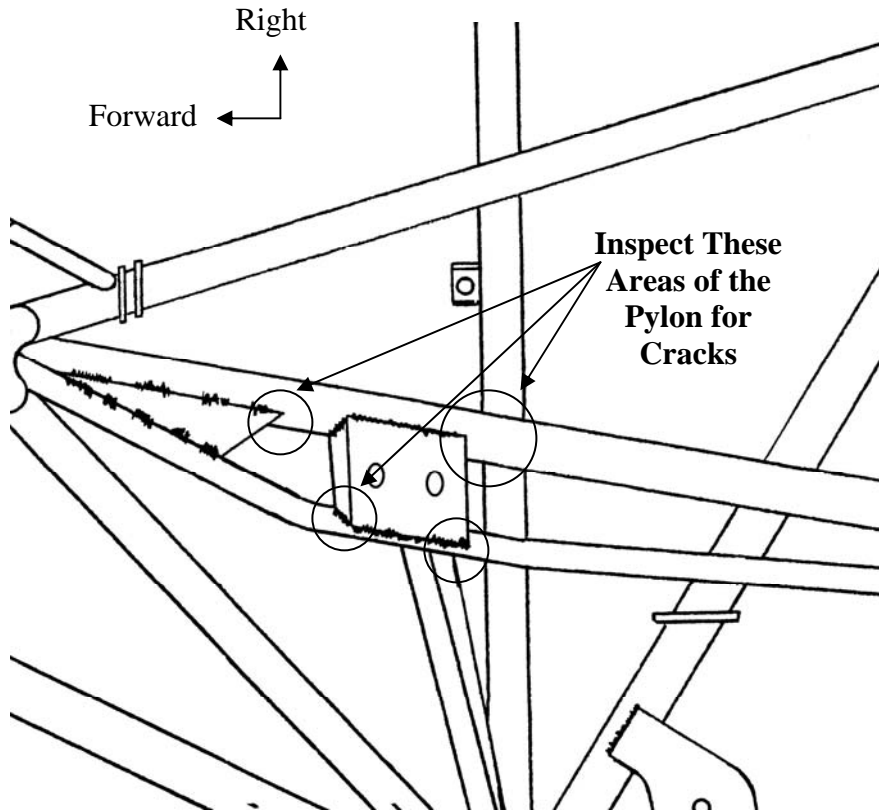

Figure 1. Pylon (Viewed from Top)
Enstrom recently received reports of 4 cracked pylons. The failures occurred in the area adjacent to the mounting bracket for the belt tension assembly bracket (Refer to Figures 1 and 2). Refer to Enstrom Service Information Letter SIL 0152 for additional information.
- B. Using a 10-power glass, inspect the pylon area adjacent to the belt tensioning assembly mounting bracket and the gusset for cracks and other damage. (Refer to Figures 1 and 2).